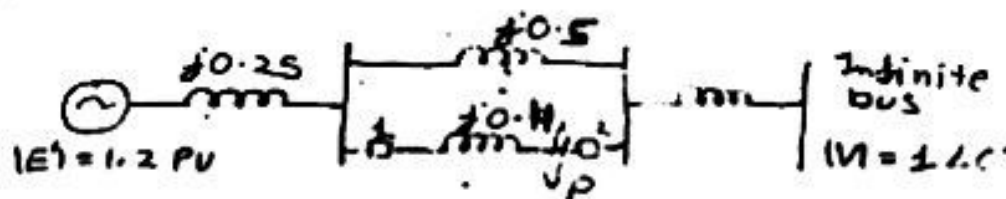

Fig. 1
3. Given the system of fig. 1 where a three - phase fault is applied at the point P as shown. (16)